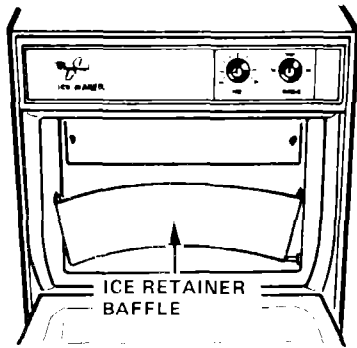

FIGURE 6
1. Remove ice retainer baffle by flexing it (Figure 6) and then slide it off the studs.